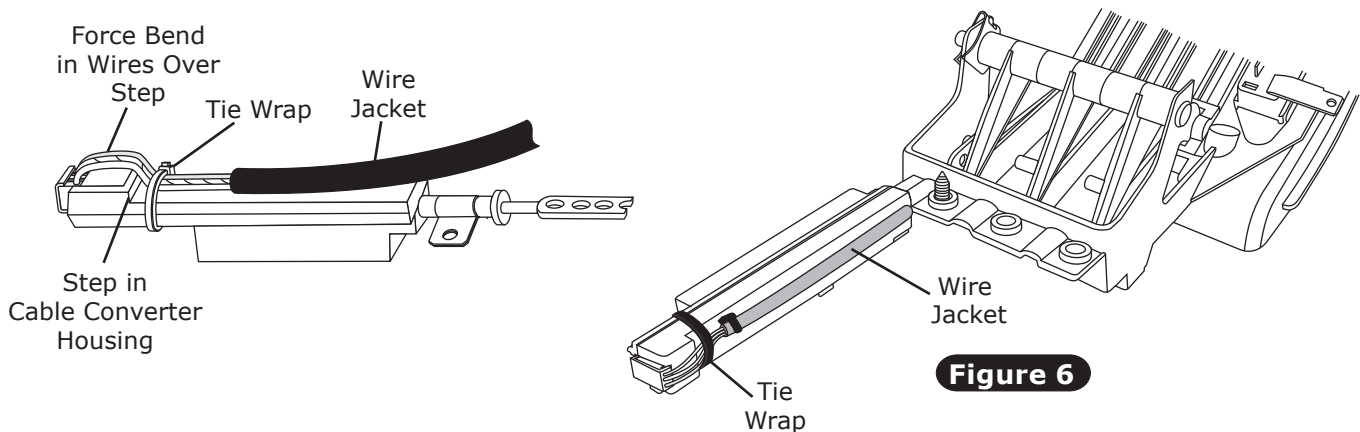

Figure 6
1. Once wires are correctly plugged into cable converter assembly, secure wires to cable converter assembly using tie wraps (supplied) (See Figure 6, below). The tie wrap must be located between the end of the wire jacket and the step in the cable converter housing, forcing a bend in each wire as it passes over the step in the cable converter housing. The head of the tie wrap must fall on the edge of the housing, as shown, to remain tight. Ensure that the tie wraps are tight enough that the wires cannot move (See Figure 6, below).